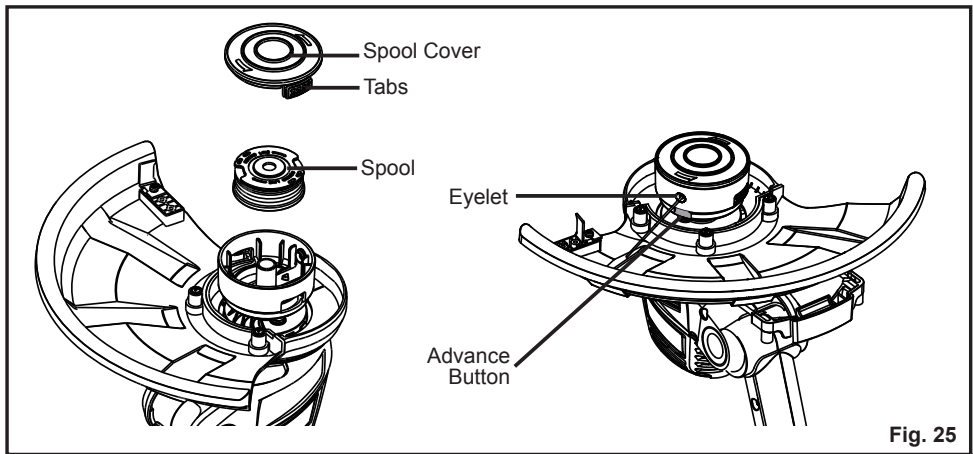

Fig. 25
### SPOOL REPLACEMENT (FIG. 25)
8. Set the new spool with the smooth side facing upward onto the trimmer head and put the line end through the line eyelet. Pay attention that the line end does not slip off the grooves of the spool. Ensure the line is not held in the parking slot on the spool before replacing the spool cover referring to the Line Replacement section (Fig. 25).
10. Keep the line advance button pressed and pull out the line end far enough so that it protrudes over the line cutting blade (Fig. 25).